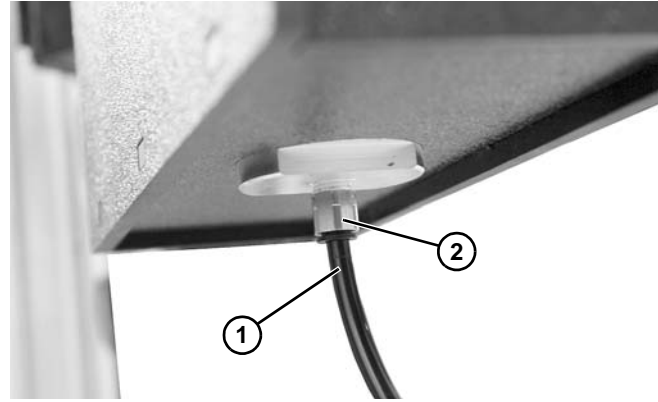

Figure 120
1. Remove tubing (Figure 120, item 1) from the lower port (Figure 120, item 2) on the lift cylinder.